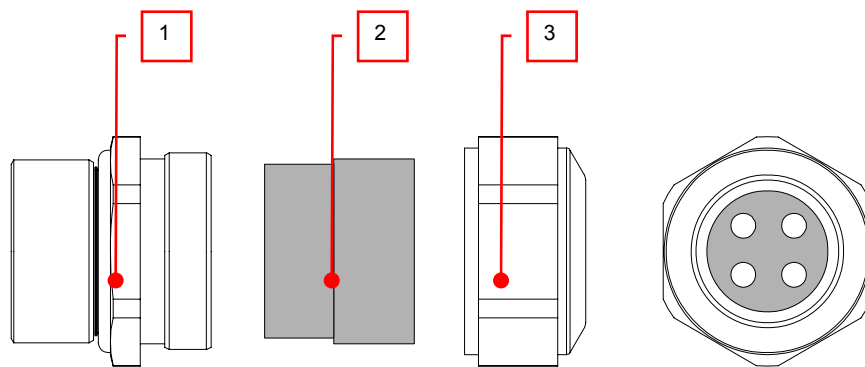

Fig. 4. KDO900 adapter components
Remove the outer ring of the cable gland, thread the installation fibre filaments with connectors through the outer ring (Fig. 4 pos. 3), through the sealing insert (Fig. 4 pos. 2) and finally through the cable gland (Fig. 4 pos. 1).